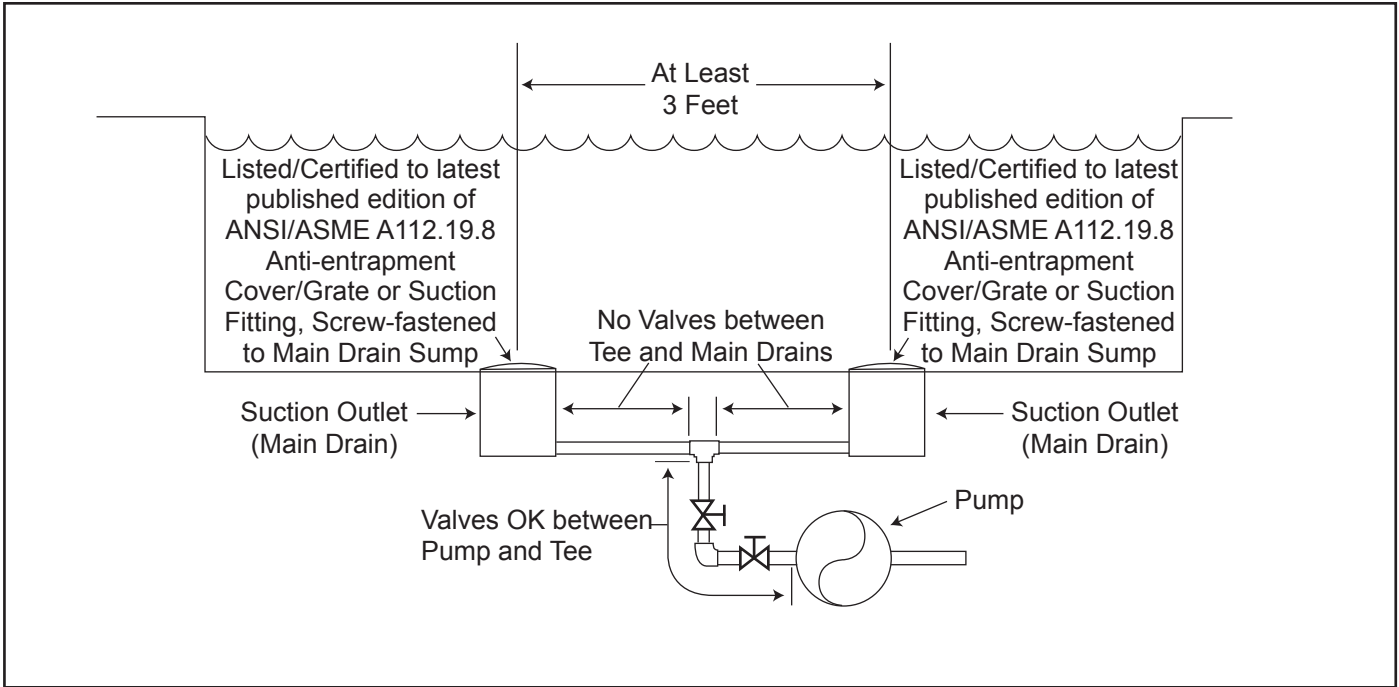

Figure 1. Number of Suction Outlets Per Pump
Number of Suction Outlets Per Pump - Provide at least two (2) hydraulically-balanced main drains, with covers, as suction outlets for each circulating pump suction line. The centers of the main drains (suction outlets) on any one (1) suction line must be at least three (3) feet apart, center to center. See Figure 1.
The system **must** be built to include at least two (2) suction outlets (drains) connected to the pump whenever the pump is running. However, if two (2) main drains run into a single suction line, the single suction line may be equipped with a valve that will shut off both main drains from the pump. The system shall be constructed such that it shall not allow for separate or independent shutoff or isolation of each drain. See Figure 1.
As shown in Figure 1, preset speed "★" is assigned to the "eStar" feature. Hence, it is intended to be assigned an energy-efficient filtration speed, as determined by the installer.